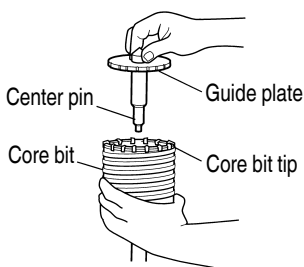

Fig. 14
- (3) Insert the center pin into the guide plate until it stops.
- (4) Engage the guide plate with the core bit, and turn the guide plate to left or right so that it does not fall even if it faces downward. (Fig. 14)